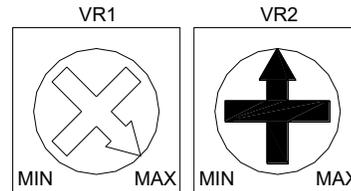

Figure 3
- Time adjustable by integral potentiometer VR2 (Figure 3)